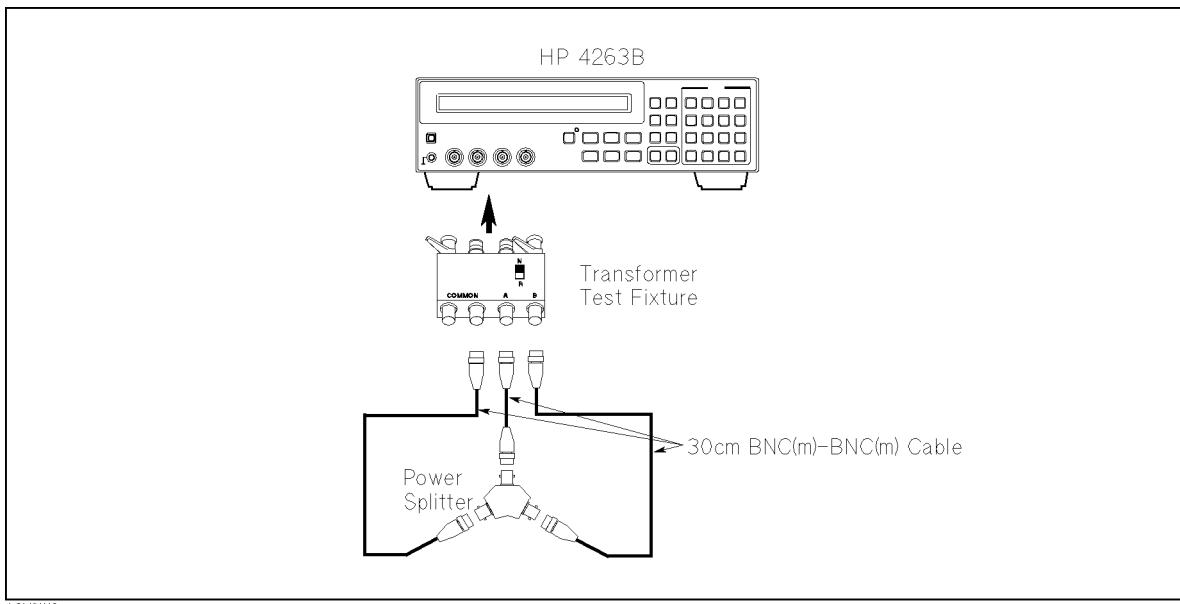

Figure 9-9. Transformer Measurement Functional Test Setup
2. Set up the equipment as shown in Figure 9-9.